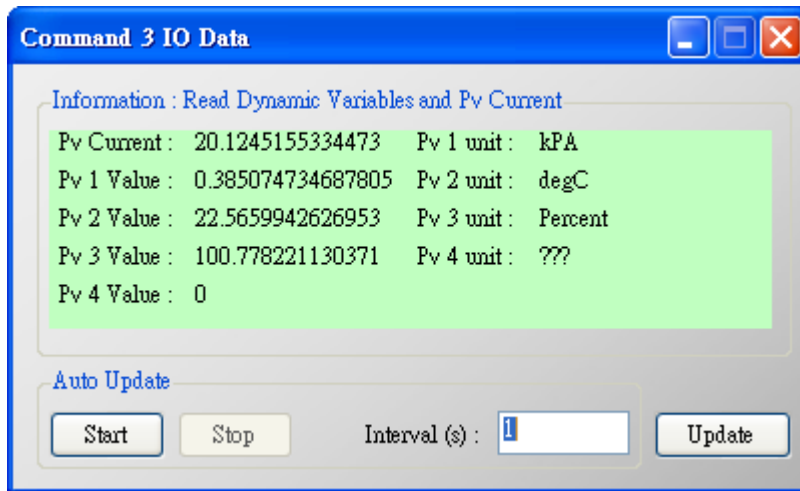

Figure 2-6 The I/O Data screen of the “Default CMD(3)” => OK
(6) The I/O Data of the “Default CMD(3)” is **OK** like Figure 2-6.